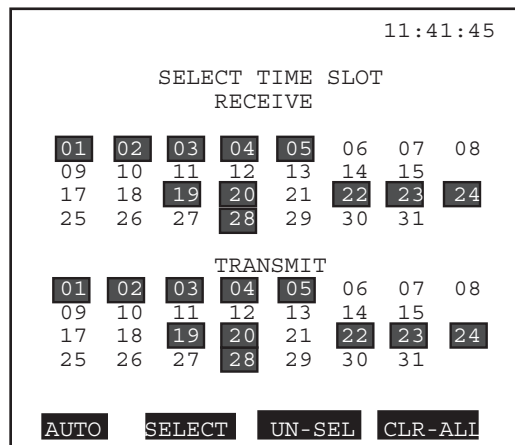

Figure 10 Select a Timeslot
- Upon pressing Nx64, you will immediately enter the SELECT TIME SLOT, screen. Select each timeslot to test. A sample screen is shown in Figure 10.
- b) Repeat until you have selected all the necessary timeslots. Selected timeslots remain highlighted, as shown in Figure 10.
- Upon pressing (F2), you will enter the SELECT TIME SLOT, screen. In this screen, you may choose each timeslot for testing. A sample screen is shown in Figure 10.
- a) Repeat until you have selected all the necessary timeslots. Selected timeslots remain highlighted, as shown in Figure 10.